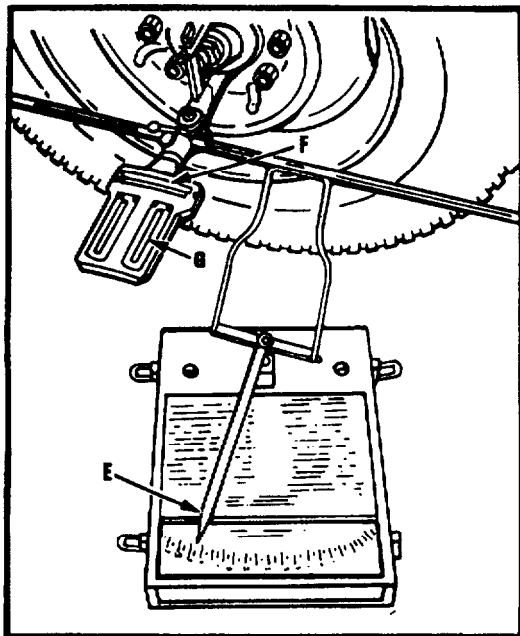

Figure 5.
- Step 4. Apply brakes to prevent wheels from rolling. Starting with left wheel, swing front of wheel inward until pointer, E, Fig. 5, reads 20° . Go to right front wheel and read its turning radius scale. Turning radius for right wheel should be greater than 20° . Refer to vehicle manufacturers specifications.
- Step 5. On left wheel, adjust camber-caster-king pin gauge until it is square with wheel and steering axis inclination bubble, F, Fig. 5 is at zero on dial. Adjust caster level until bubble, G, Fig. 5 is at caster zero.